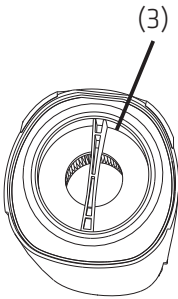
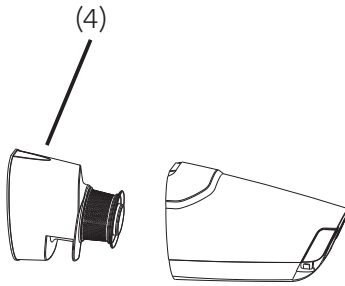
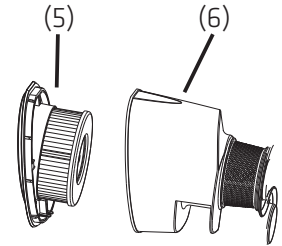

Fig. 6-2a
Fig. 6-2b
Fig. 6-2c
2) Grasp the filter handle (3) and remove the filter support assembly (4) out of the dust cup, and then empty the dust cup and rinse it with water. Finally, wipe the residual water on the dust cup. (see Fig 6-2a/ Fig. 6-2b/ Fig. 6-2c)
3) Grasp the filter handle (3) and pull filter (5) assembly out, and then clean it and rinse it with water. Finally, wipe the residual water on the filter, and you can just use it after being dried naturally.
4) Clean filter (5) with water when the appliance works inefficiently, dry it completely after cleaning. (see Fig 6-2a/ Fig. 6-2b/ Fig. 6-2c)